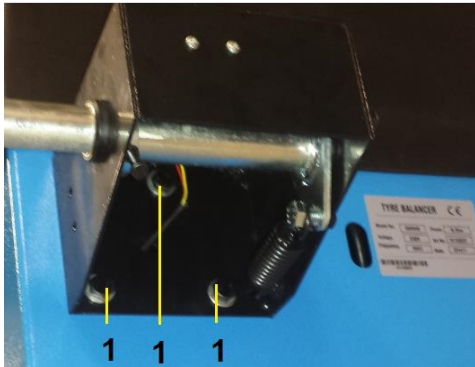

Fig. 1
- Mount the cover to the back of the machine using the appurtenant bolts and washers (1, fig.1). Mount the bolts firmly.